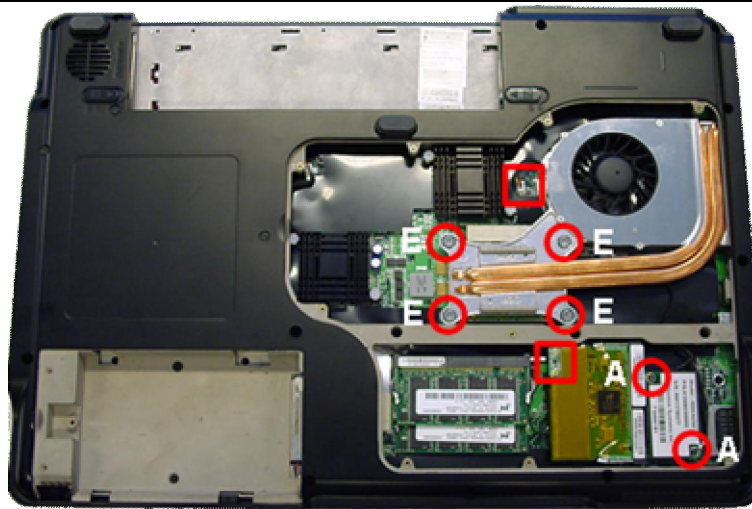

Fig. 5 After removing the bottom panel.
2. Remove the screws (4xE) from the heat sink (see Fig. 5).